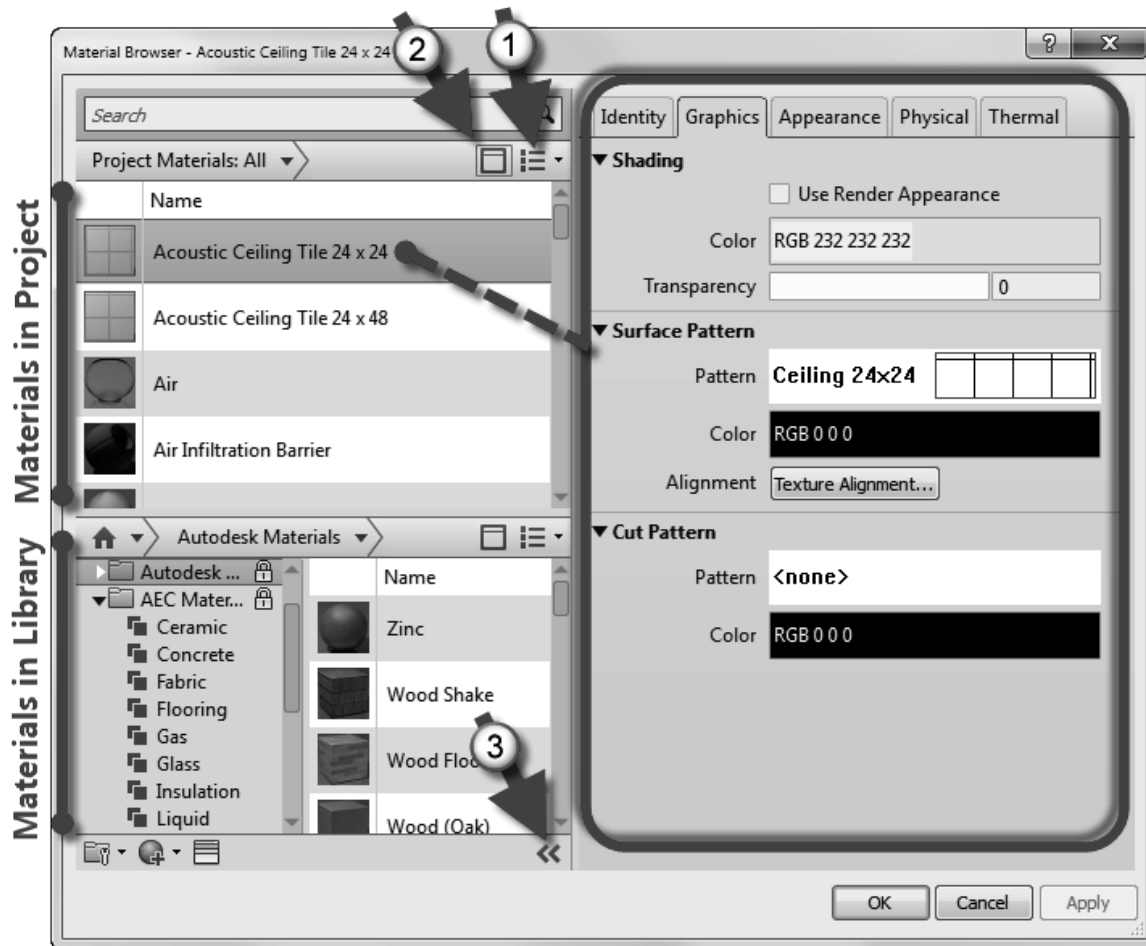
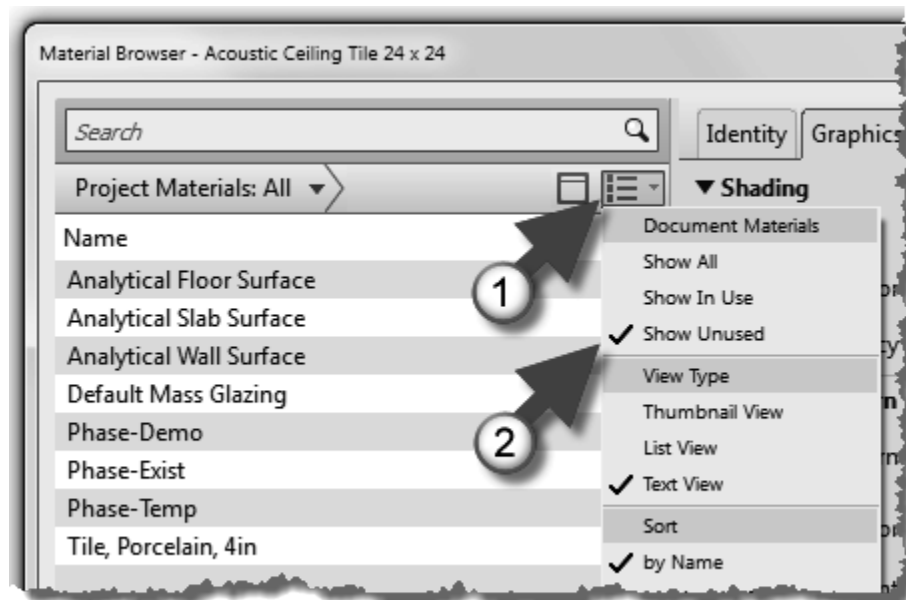

FIGURE 4-2.1 Materials dialog
FIGURE 4-2.2 Sort by Material usage state
You will see the *Materials* dialog shown below (Figure 4-2.1).
**ARROW #1:** Clicking the drop-down list, pointed out with the #1 arrow, in Figure 4-2.1 allows you to switch the material list to just be text rather than a preview (see also Figure 4-2.2). This adjustment allows you to see more items in the limited space.
In the *Materials* dialogs (Figure 4-2.1), notice the list of *Materials* on the left side of the screen.
Selecting by the drop-down list (#1, Figure 4-2.2), allows you to narrow the list down to just *Materials* used in the project, or not used. The default is *Show All*, so both used and not used appear in the list; you would normally want to see both.